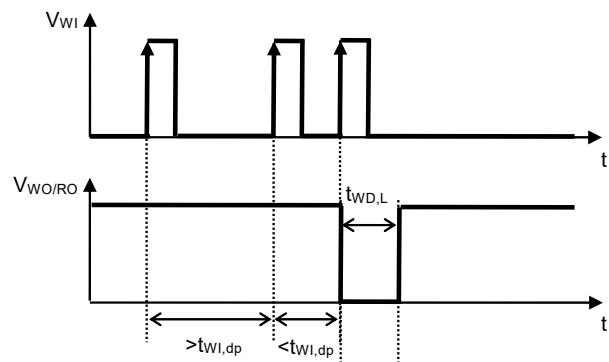

Figure 10 Watchdog Double-pulse Detection Time
*3. The time from when the watchdog timer initiates the detection of a trigger signal to when a trigger is detected again before $t_{WI,dp}$ elapses and the WO / RO pin output changes to "L" (Refer to **Figure 10**). This value changes according to C_{DLY} .